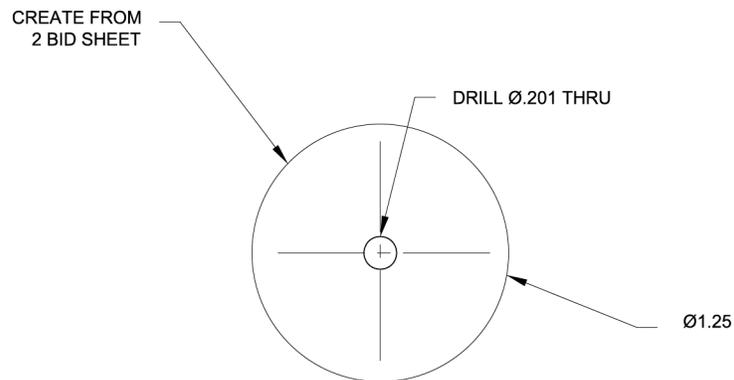

Figure B-14 2 BID Sheet Disk
9. Fabricate two disks from 2 BID sheet to the dimensions shown in Figure B-14.